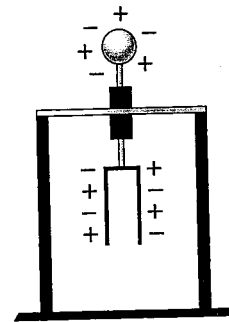

Figure 2 A neutral electroscope
1. Copy Figure 2, which shows a diagram of a neutral electroscope, into your notebook.